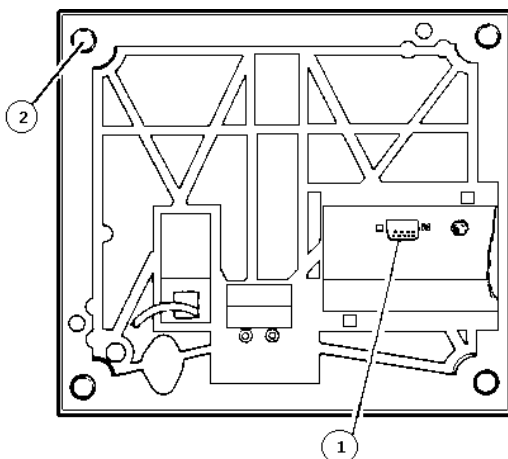
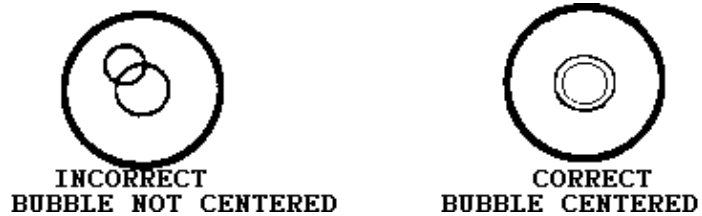

FIGURE 1
FIGURE 2
2. Attach the 9-pin connector end of the enclosed cable (PN 130115 00A) to the 9-pin plug (item 1) shown in Figure 1. Secure with the two screws included with the connector. Section 5 of this manual shows the pinconfiguration of the 9-pin connector J2 if a cable longer than 10 feet (3m) must be made.
2. Refer to Figure 1. Level the scale by turning the adjustable feet (item 2) on the bottom of the base in or out. Adjust the feet so the scale does not rock. The correct position of the level bubble (located on the sub-platter) when the Model 1996 is level as shown in Figure 2.